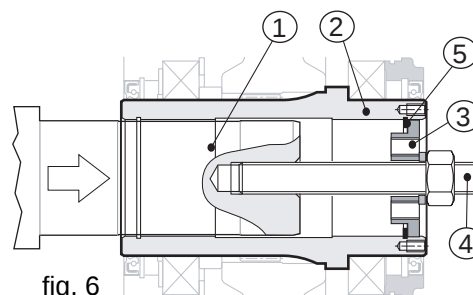

fig. 6
Now insert the inner seeger retaining ring (pos. 5) then the backplate (pos. 3). Now when you tighten the threaded rod, the two shafts will abut against each other (see Fig. 6).